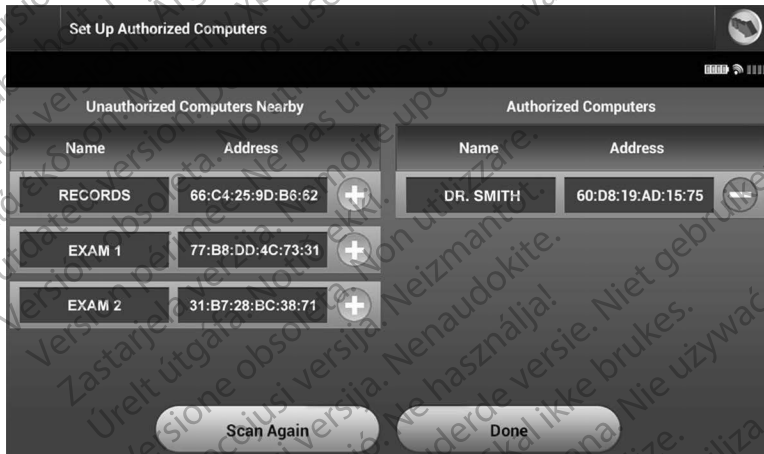

Figure 6: Choosing a computer to authorize for Bluetooth™ data transfer.
3. When the scan is complete the screen will list the discovered computers (the three computers having the strongest *Bluetooth™* signals) under the heading Unauthorized Computers Nearby (Figure 6). Choose the computer you wish to pair with and press the plus button next to it to complete the pairing process.